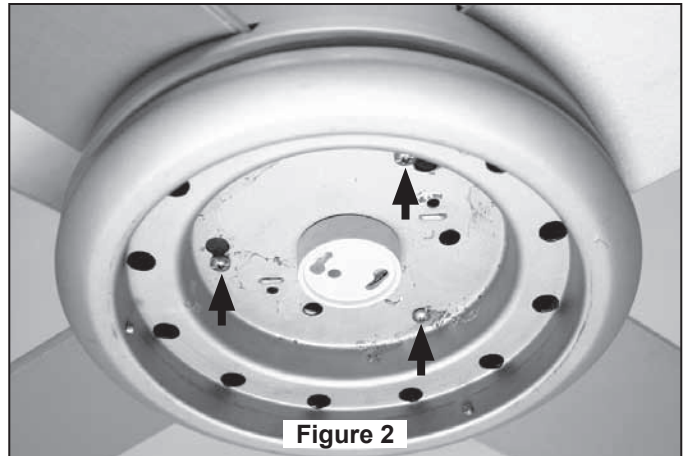

Figure 2
2. Securely attach Support Light Kit Assembly to the Adapter Plate by tightening three screws provided with the fan. (Figure 2)
Be sure to line up the curved slotted holes located on the Downlight Socket Plate. (Figures 2)